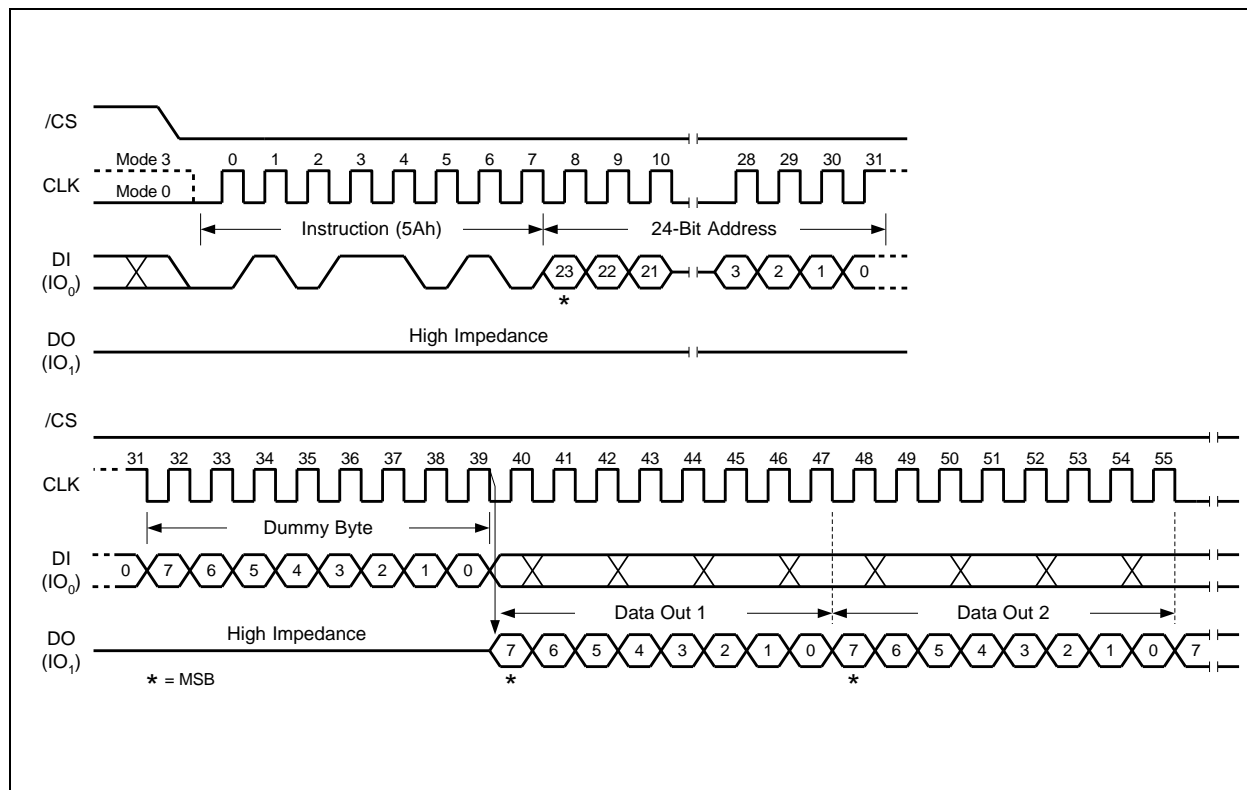

Figure 33. Read SFDP Register Instruction
The Read SFDP instruction is initiated by driving the /CS pin low and shifting the instruction code “5Ah” followed by a 24-bit address (A23-A0)(1) into the DI pin. Eight “dummy” clocks are also required before the SFDP register contents are shifted out on the falling edge of the 40th CLK with most significant bit (MSB) first as shown in Figure 33. For SFDP register values and descriptions, please refer to the following SFDP Definition table.